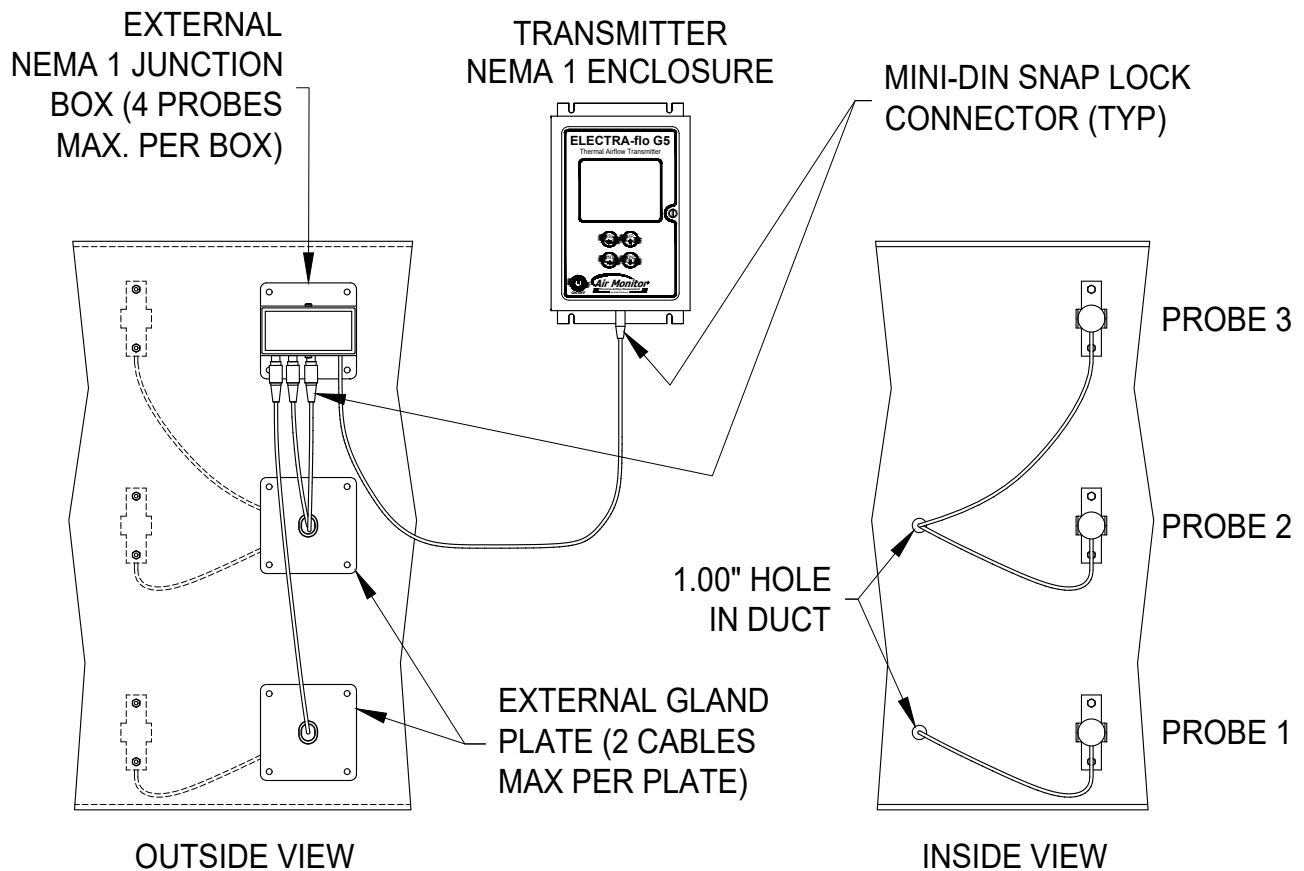

Figure 13
- Multiple **internally** mounted probes are connected in parallel to the externally mounted junction box, by routing the probe cables through an externally mounted gland plate. The junction box connects to the transmitter. See Figure 13.